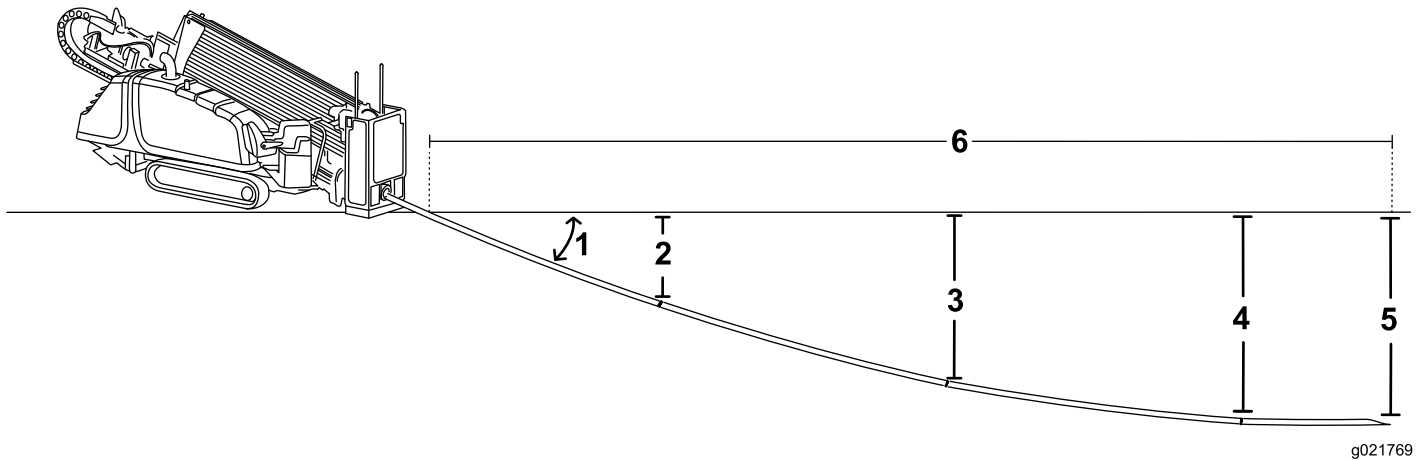

Figure 53
- You insert the first 3 m (10 ft) of drill bit/pipe into the ground with no steering. The end of the drill bit will be 53 cm (21 inches) deep (Figure 53).